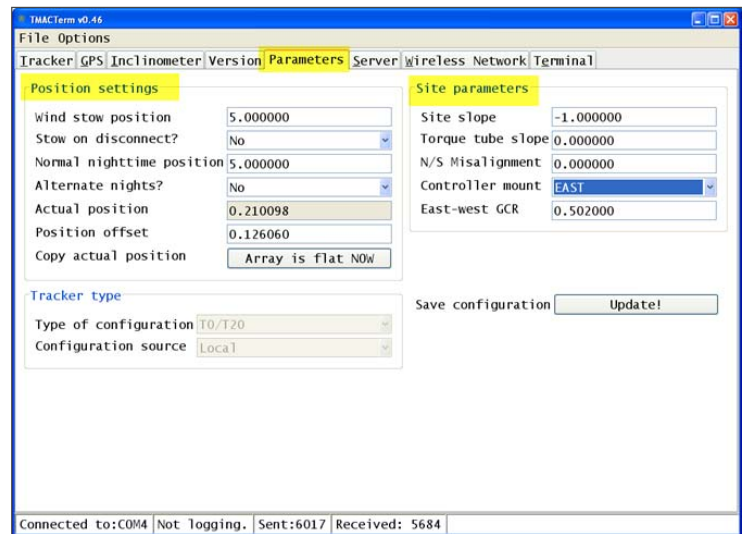

Fig. 27
18. Enter (or select) the parameter values indicated in the project drawings in the **Position settings** and **Site parameters** fields (Fig. 27).